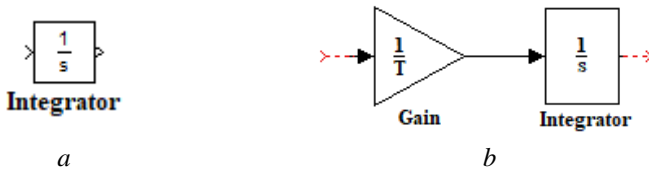

Figure 2.1 – Integrator block icon and block diagram for realising the Integral control action
3.1. The first typical dynamic control action you study is the integral control action (I). This is described by the transfer function $W(s) = \frac{K}{s} = \frac{1}{T \cdot s}$ (see Table 2.1). It can be found in the **Simulink/Continuous** library. The Integrator block icon is shown in Figure 2.1,*a*. It integrates the input signal $x(t)$ at zero initial conditions.
In the lab class, to realise the transfer function $W(s) = \frac{1}{T \cdot s}$, it is necessary to locate the Integrator block after the Gain block and connect it together as shown in Figure 2.1,*b*.
Enter time coefficients T_1 , T_2 and T_3 in the *Gain* field of **Block Parameters: Gain** as shown in Figure 2.1,*b*, for the corresponding Gain block.